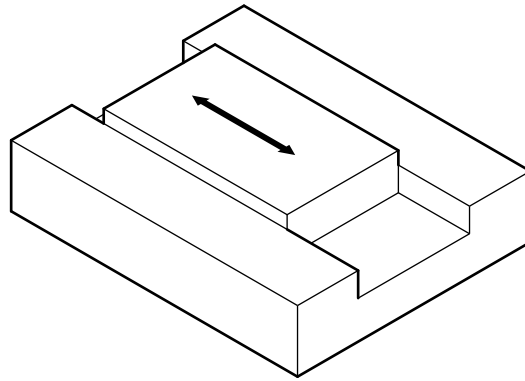

Fig. 16
- (d) Fig. 16 shows two steel machine parts that have to move against each other in the direction of the arrows.